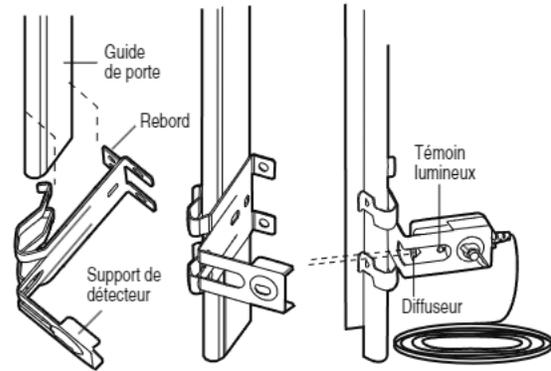

Figure 2 MONTAGE MURAL (CÔTÉ DROIT)
**Pose murale (Figures 2 et 3) :**